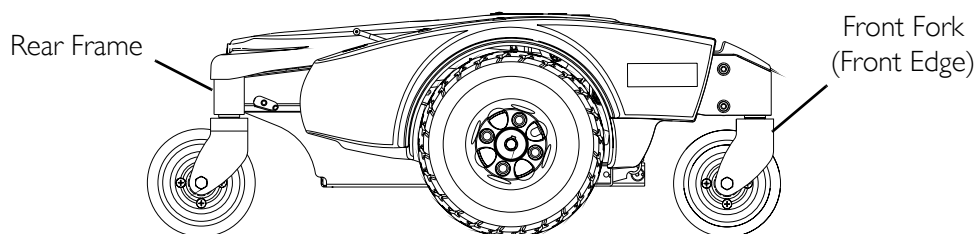

FIGURE 3.2 Lifting/Stairways
NOTE: For this procedure, refer to FIGURE 3.2 on page 19.
5. Ensure that the casters are oriented as shown in FIGURE 3.2.
6. Using the rear and front forks as hand hold supports, transfer the wheelchair base to desired location. Refer to FIGURE 3.2.